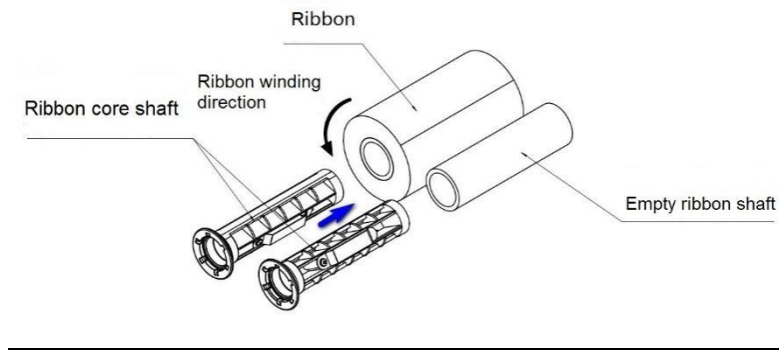

Figure 2.3.2
B) For the ribbon shaft with an inner diameter 25.4mm (1 inch), insert the ribbon core shaft into the ribbon and the empty ribbon shaft separately (see Figure 2.3.2). And the following operation is the same as in the step A).